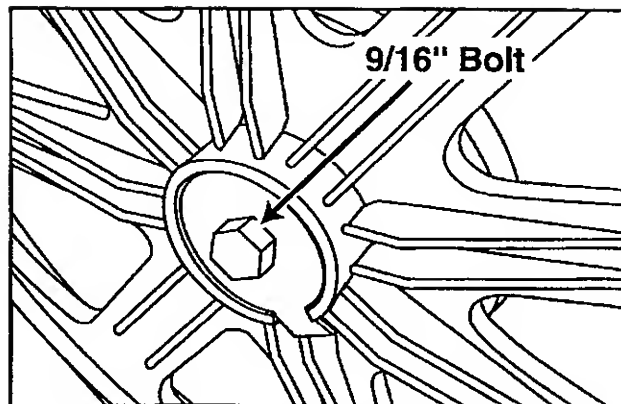

Figure 7-6
3. Remove the bolt and the spider shaft will be exposed. Carefully slide the pulley off the spider shaft, using a "rocking/side-to-side" motion. If the pulley has a snug fit, use your Spanner Wrench to apply enough leverage to pry the pulley off the shaft (Figure 7-6).